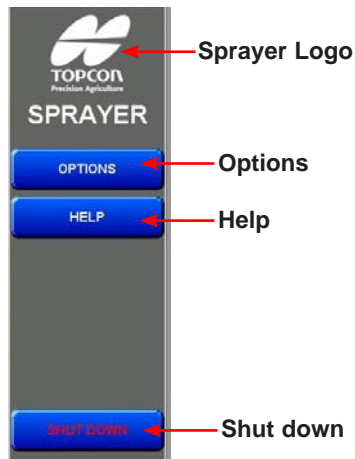

Figure 6-8. Main Menu screen
1. Press **Options** (Figure 6-8 on page 6-12).